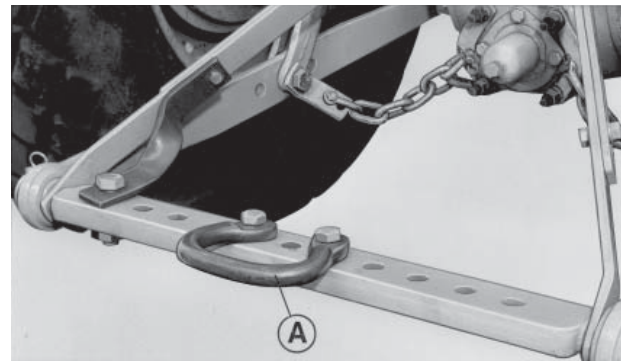
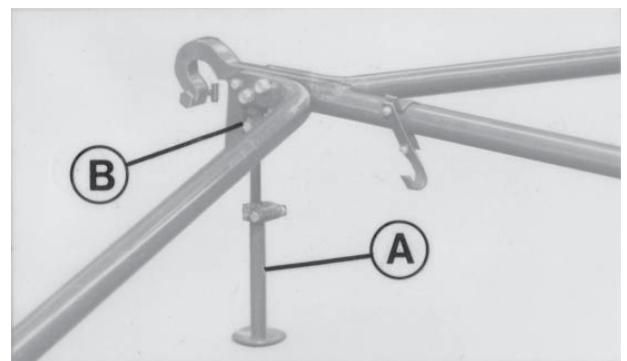

Fig 18
Fig 19
The tractor loop (A, Fig. 18) is bolted to the centre of the tractor drawbar. The yoke is supported by the adjustable stand (A, Fig. 19). The tractor can then be reversed so that the tractor loop is beneath the hook on the yoke. The foot rest is then retracted allowing the hook to locate in the tractor loop. A safety catch (B) must be raised and held in position by the drop pin.